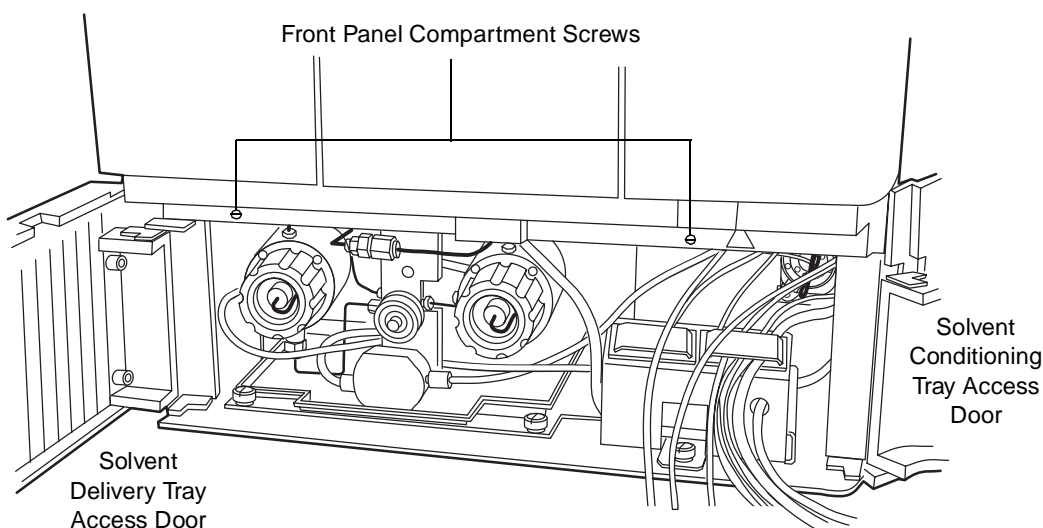

Figure 7-29 Accessing the Sample Compartment
7. Open the solvent delivery tray and solvent conditioning tray access doors (Figure 7-29).